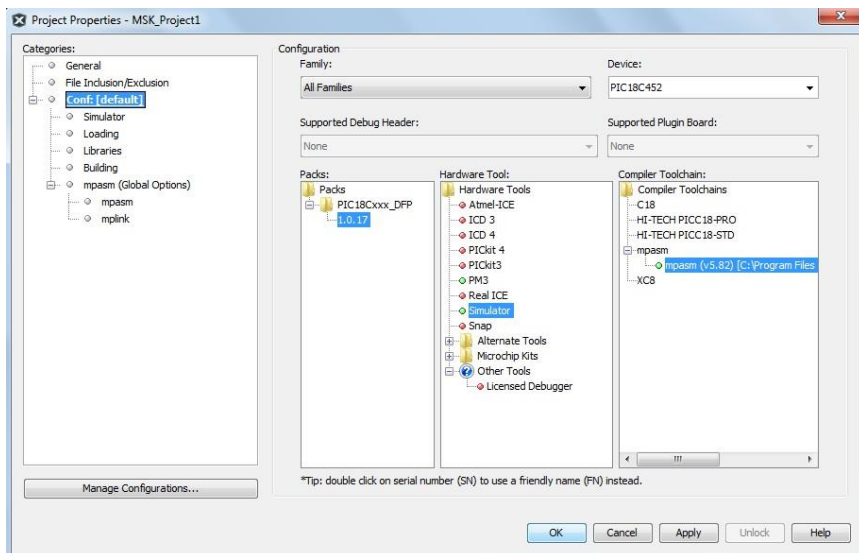

Fig 4.17 Project Properties Window
14. To change project properties, you may right click on your project and select “Properties” option, and you may change the family, device, simulator etc as shown in Fig 4.17.